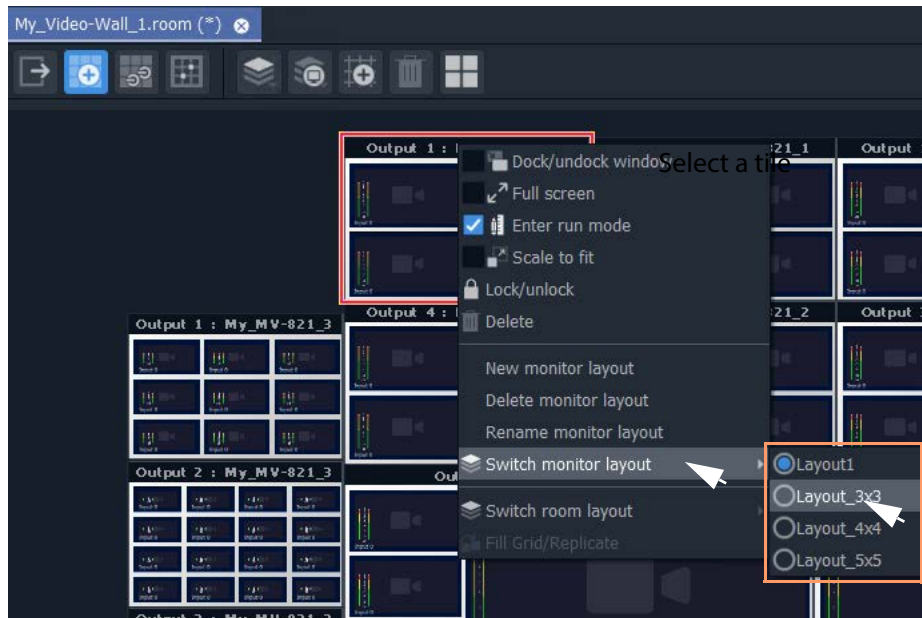

Fig. 16-45: Select a Monitor Layout
- 6 Select 'Switch Monitor Layout' and select a **Monitor Layout** from the list. (See Figure 16-45.)